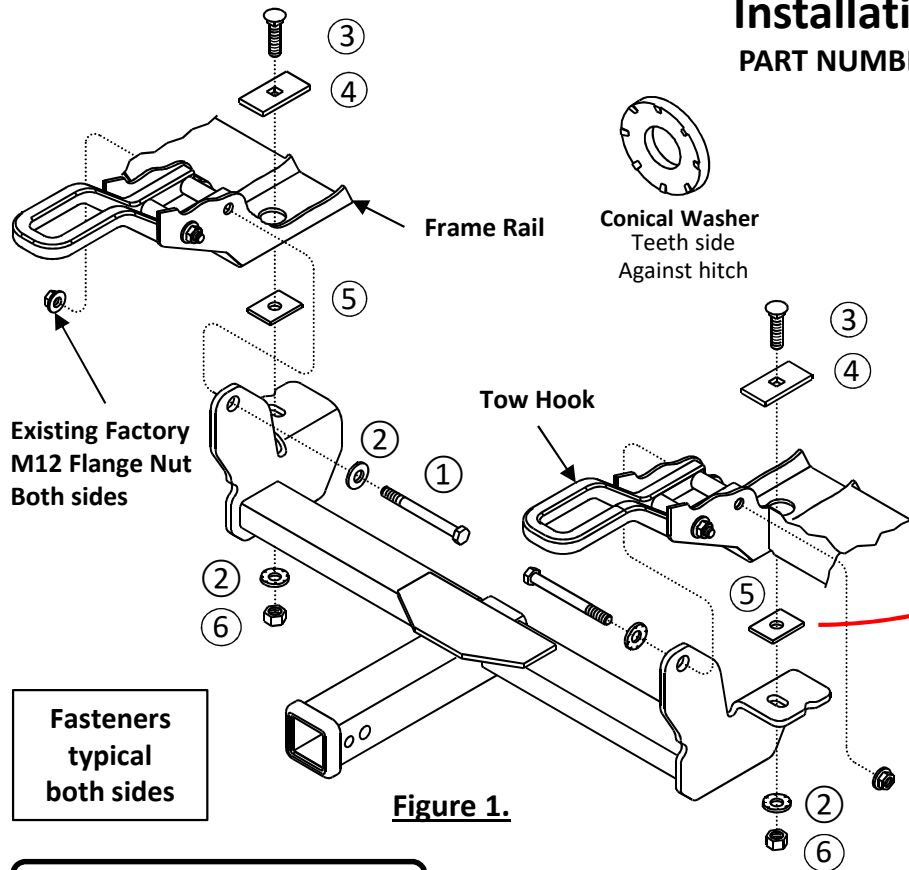

Figure 1.
- Remove M12 bolts** – using an 18mm socket and 18mm end wrench, remove the rearward M12 bolts and hex flange nuts holding tow hooks, (1) per side. **Do not** remove the forward bolts holding tow hooks. Return the (2) M12 bolts to vehicle owner. Save the (2) M12 flange nuts to be used for hitch installation. **See Figure 1.**